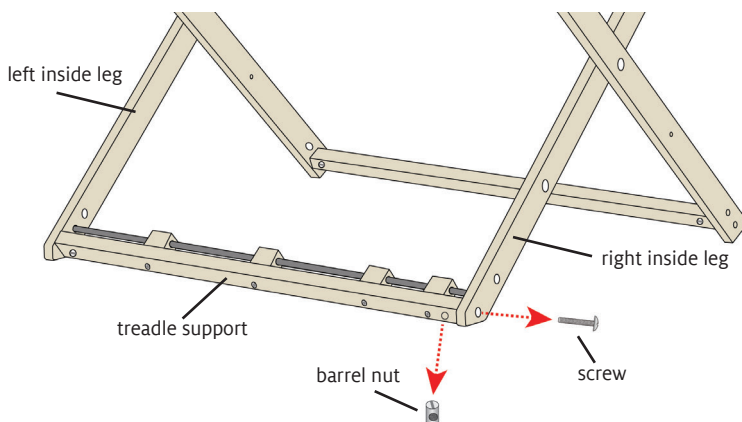

FIGURE 3: REMOVE TREADLE SUPPORT HARDWARE
2. Begin at the right inside leg. Remove the machine screw and barrel nut holding the treadle support to the leg, as shown in Figure 3. Save the barrel nut for step 4.